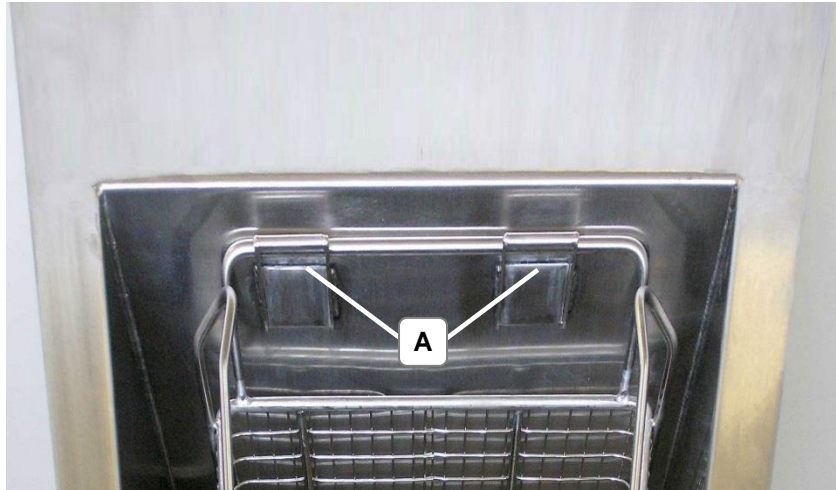

Fig. 4.9. Cleaning basket in cleaning position
**Cleaning position** The cleaning basket is hooked by its bow into the two suspension elements on the front wall of the tank (see *fig. 4.9.A*). The tank floor will not be damaged by the basket feet.